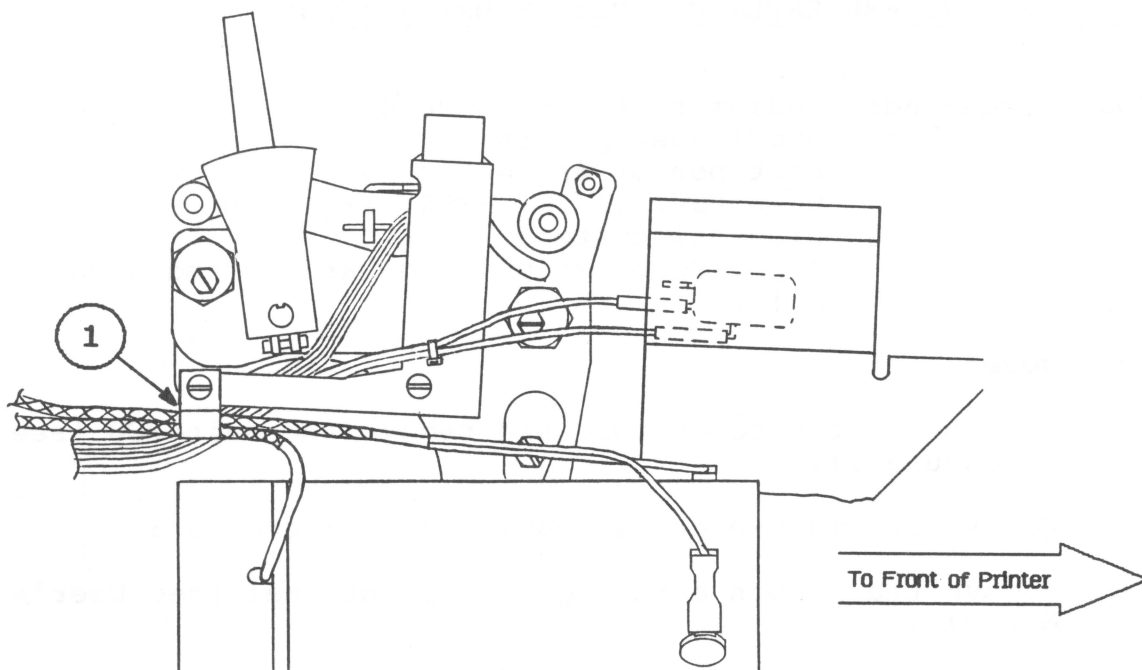

FIGURE 8
- \*11. On some models, the motor cables are held to the mechanical assembly with a clamp (Figure 8, #1). If yours has this feature, unhook the cables from the clamp.